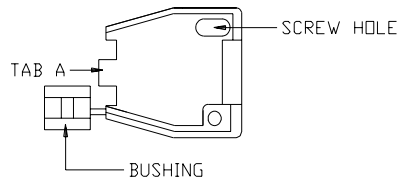

Figure 2.3 Strain Relief
1. Snap off the rectangular bushing attached to each piece of the strain relief. See Figure 2.3.